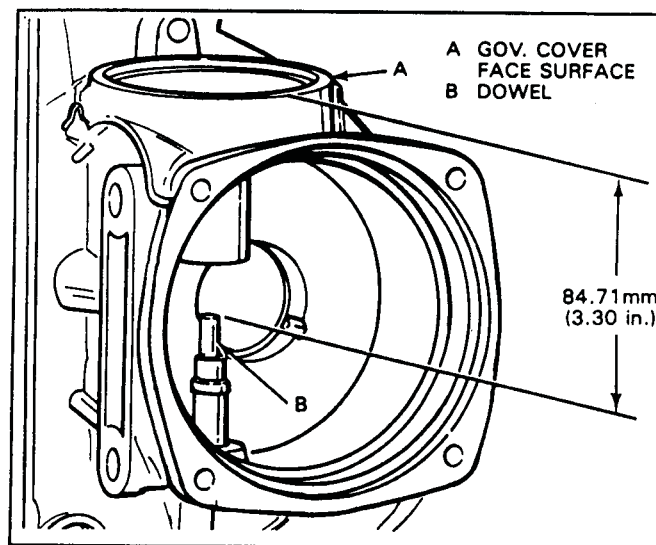

Figure 78
- Governor support pin installation depth (See Figure 78).